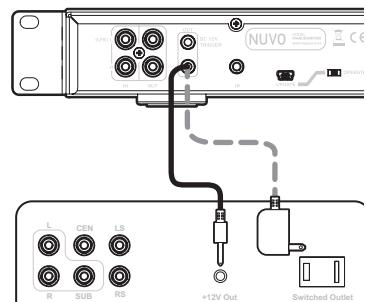

Fig. 7
**d. Use a 12 V trigger connection (for NV-SUBAMP200-xx and NV-SUBAMP500 models) See Fig. 7:**